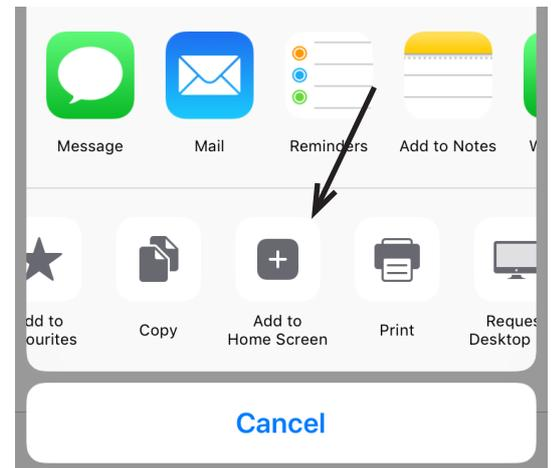

Figure 2
4. Then tap on 'Add to home screen' (see figure 2).